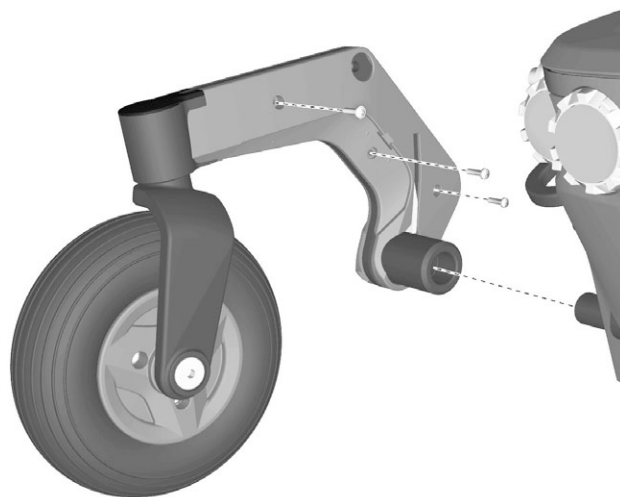

Figure 14. The link arm covers are mounted with three screws.
4. Remove the three screws holding the link arm covers, see fig. 14.
1. Fit the link arm covers using the three screws, see fig. 14.